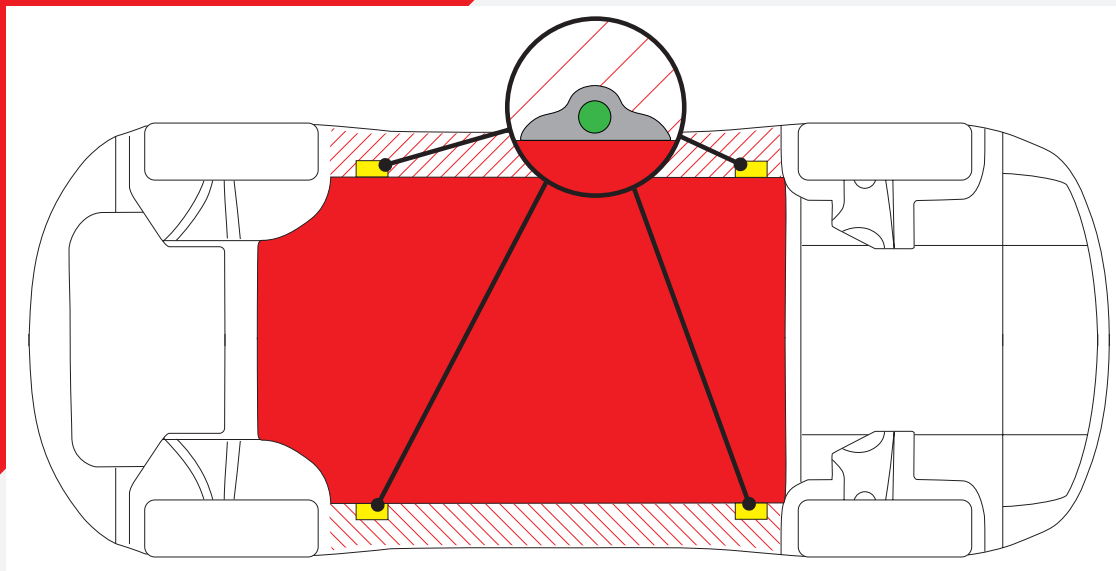

Figure 2
2. (Fig. 2) Locate the dedicated jacking points on the vehicle (illustrated in yellow). Ensure all points are free from debris and insert adaptor 173025 (as marked in green). Position the lift arm pads under the adaptor to avoid damaging the high voltage battery area (highlighted in red).